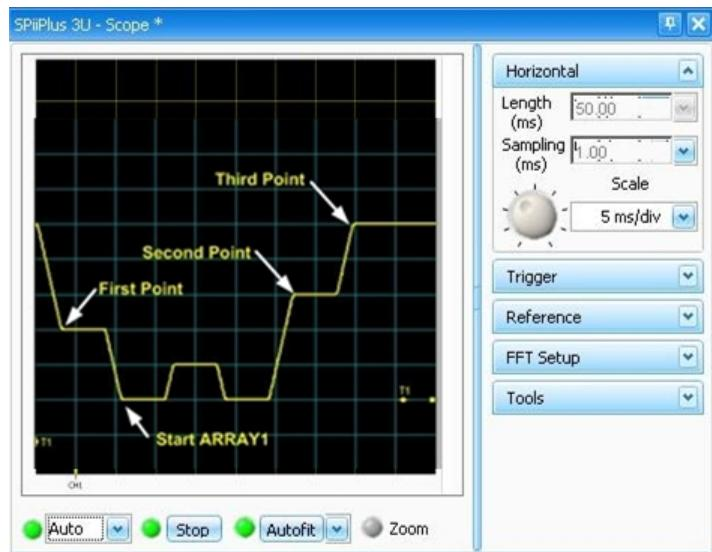

Figure 2-8. Single-Axis Motion Using MPTP
**Figure 2-8** illustrates the above code for a single-axis motion initiated by **MPTP**. Note that not all of the members defined in **ARRAY1** necessarily need to be used by **MPOINT**. In this example, only three of the defined members are called.